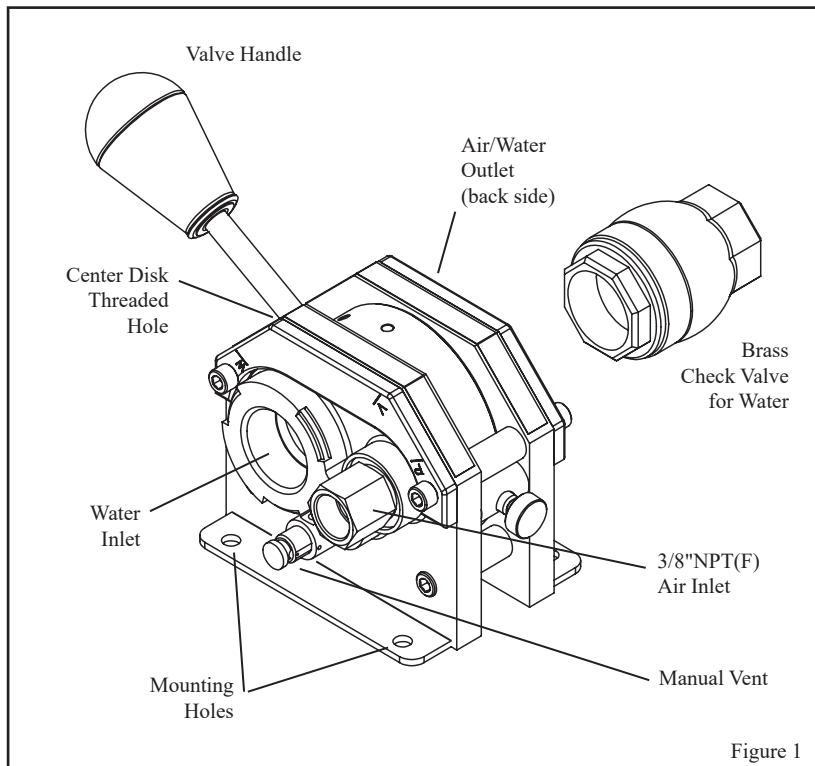

Figure 1
1. Apply thread locking compound (Loctite 638 or equivalent) to threaded end of valve handle. Screw valve handle into the center disk threaded hole. See figure 1.
2. Thread manual vent into the hole as shown in figure 1. (No additional thread sealant is required. Do not over-tighten.)